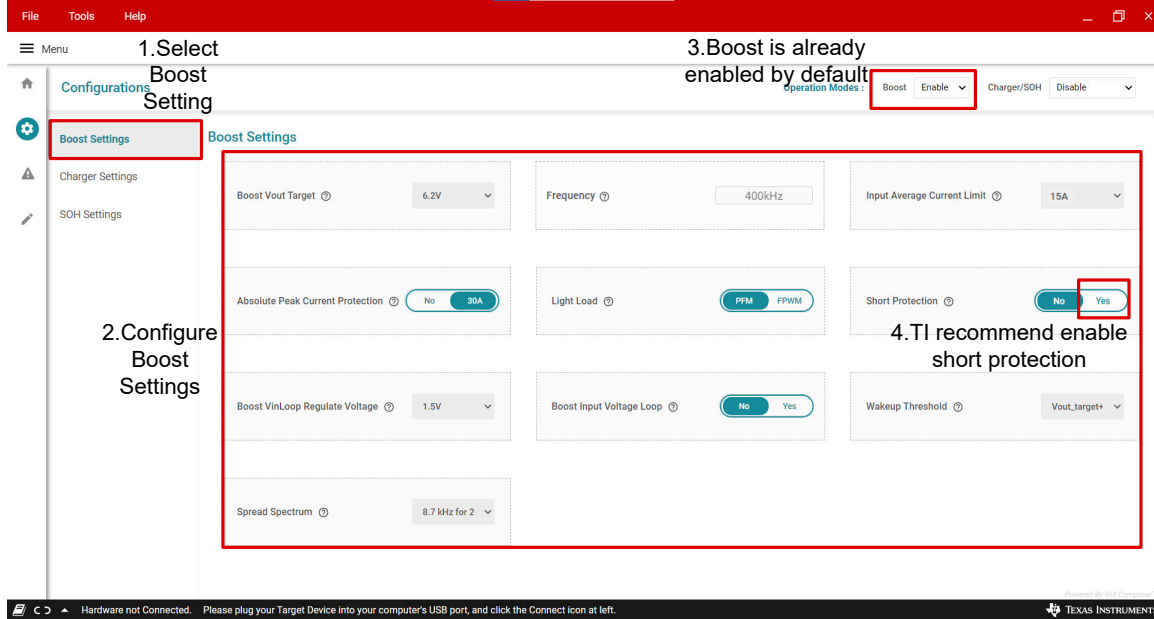

Figure 3-3. Boost Settings Sheet
- Click the *Start* button and the GUI automatically turns on to the Configuration Screen (see Figure 3-3). The TPS61381 is set to boost enable by default. The default output voltage is 6.2V. Set the boost mode output voltage, current limit point, and so forth according to the design target.